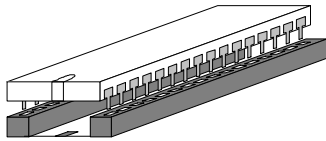

Figure 27 EPROM position
- a) that EPROM has been connected with correct polarity (see **Fig. 27**);